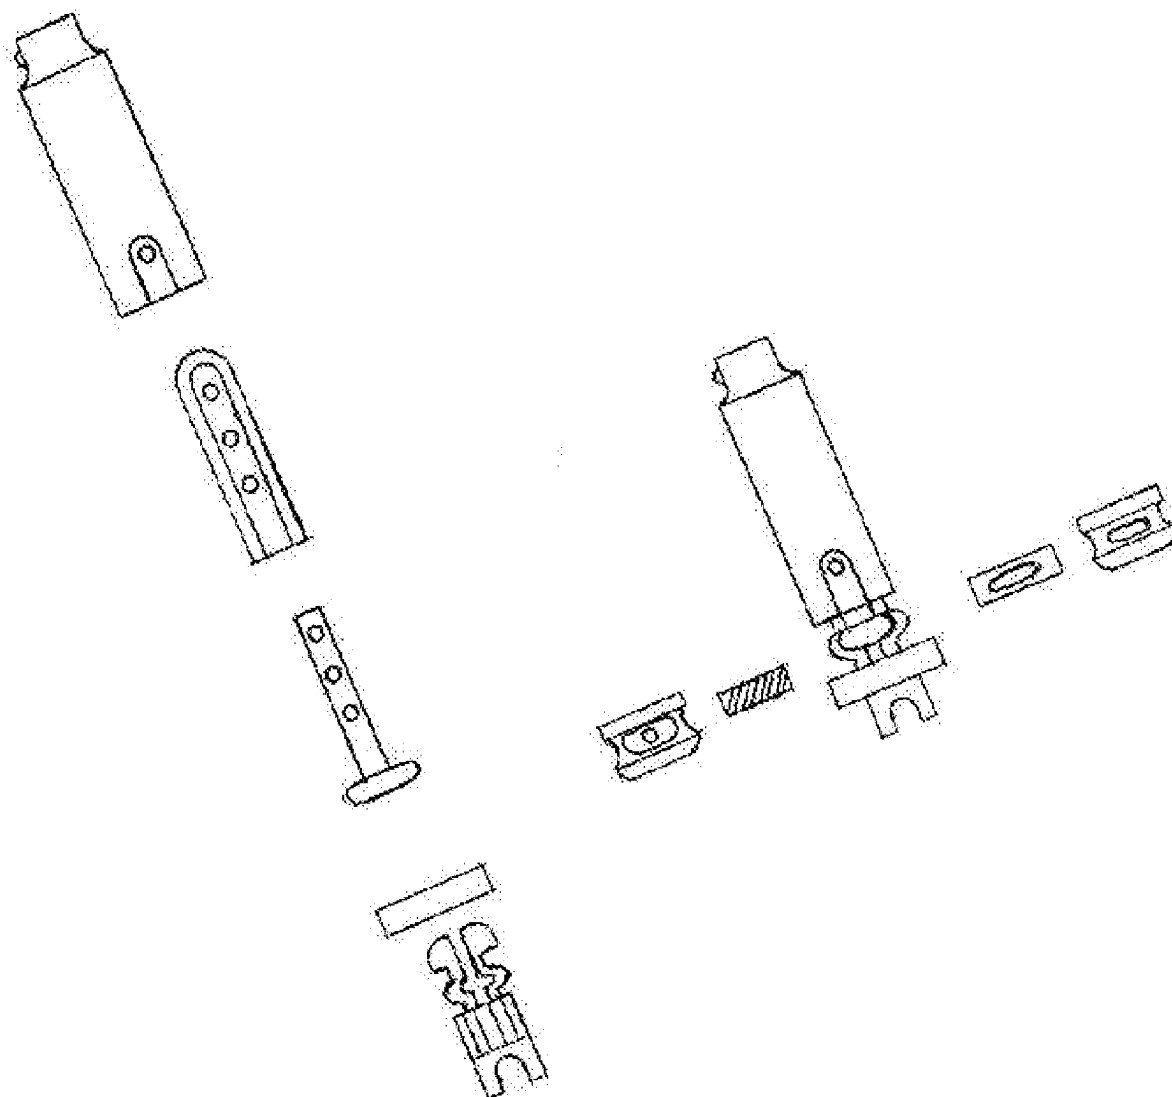

Figure 1
**[0003]** FIG. 1: Displays perspectives of outer square drive shaft. Includes top view, bottom view, 3D view, left side view, frontside view, as well as (at bottom) views of nearby perspectives if they were cut in half from front to back.
**[0017]** FIG. 15: Displays a visual assembly of the speed driver's different parts. 15A displays FIGS. 1, 2, 3, 6B, and 7 being assembled. 15B displays 15A along with FIGS. 4, 5A, 5B, and 6A being assembled. 15C displays 15B along with FIGS. 5B, 8, 9, 10A, 10B, 10C(x2), and 11C being assembled. 15D displays 15C along with FIGS. 11A, 11B, 12A, 12B, 12C, 13, and 14 being assembled. 15E displays 15D along with FIG. 12D already installed.